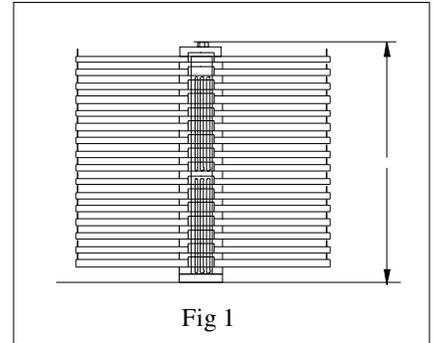

Fig 1
(See Figs 1 & 2)
3. Measure plate lifter with filter plates, sealing cap and locking nut installed note dimension. (Fig 1)